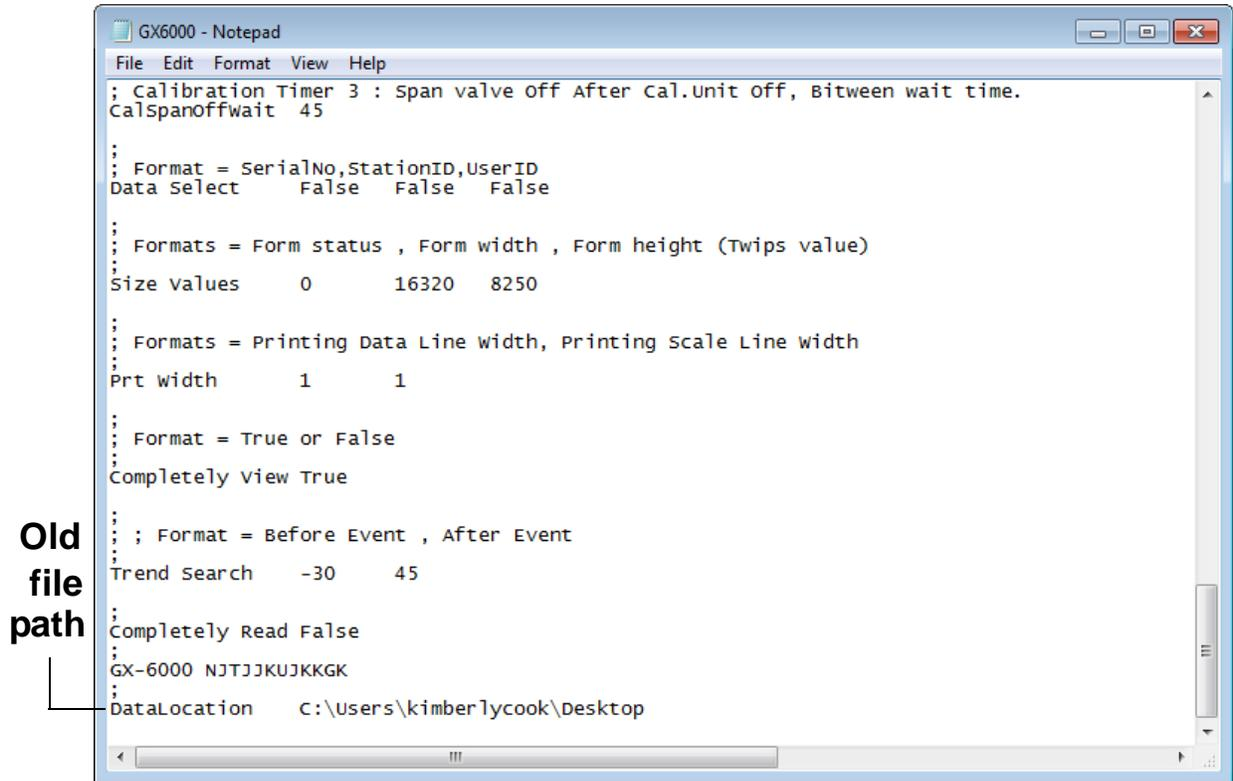

Figure 9: GX6000.ini File with Original Path
3. Open GX6000.ini file in Notepad and scroll down to the very last line. This line is the Data Location path. An example of the path created by the program is shown in Figure 9. Replace the current path with the desired path (see Figure 10).